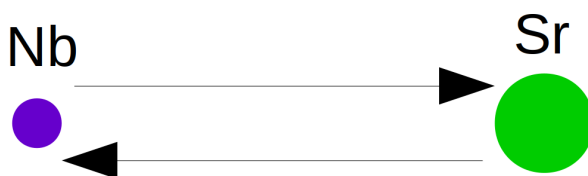

Figure 7.2: The Nb-Sr single scattering path.
**Step-3-5-7:** Each single scattering path has its corresponding output file (from FEFF running). For example, the file for the first scattering path is 'feff0001.dat'. First of all, the program will ask for the file number for the single scattering path 'Nb -->Sr -->Nb', which represents the scattering shown in Fig. 7.2. Now we need to open